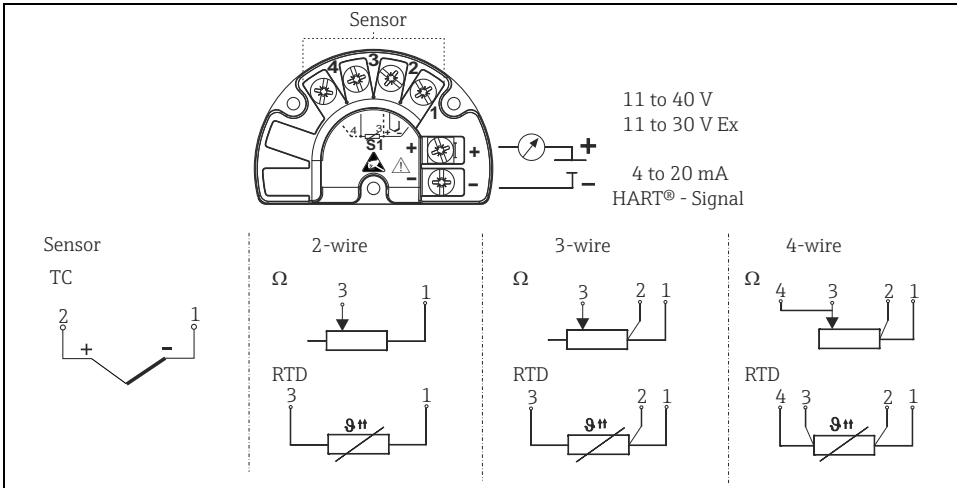

Fig. 3: Wiring the field transmitter - terminal assignment
1. Remove the cover clamp (item 1).
2. Remove the device cover together with the O-ring (item 2).
3. Remove display with twist protection if applicable from the electronics module (item 3).
4. Open the 2 screws of the electronics module and remove the electronics module (item 4).
5. Open the cable gland at the device (item 5).
7. Connect the wires to the terminal block as per (→ Fig. 3).
9. On completion of the wiring, screw on the electronics module (item 4) again, plug on the display with twist protection (item 3) again if applicable and screw the housing cover together with the O-ring (item 2) down again. Finally refit the cover clamp (item 1).
Have the cables been correctly connected? Compare with the connection schematic on the terminals or see Fig. 3.	See connection schematic on the housing